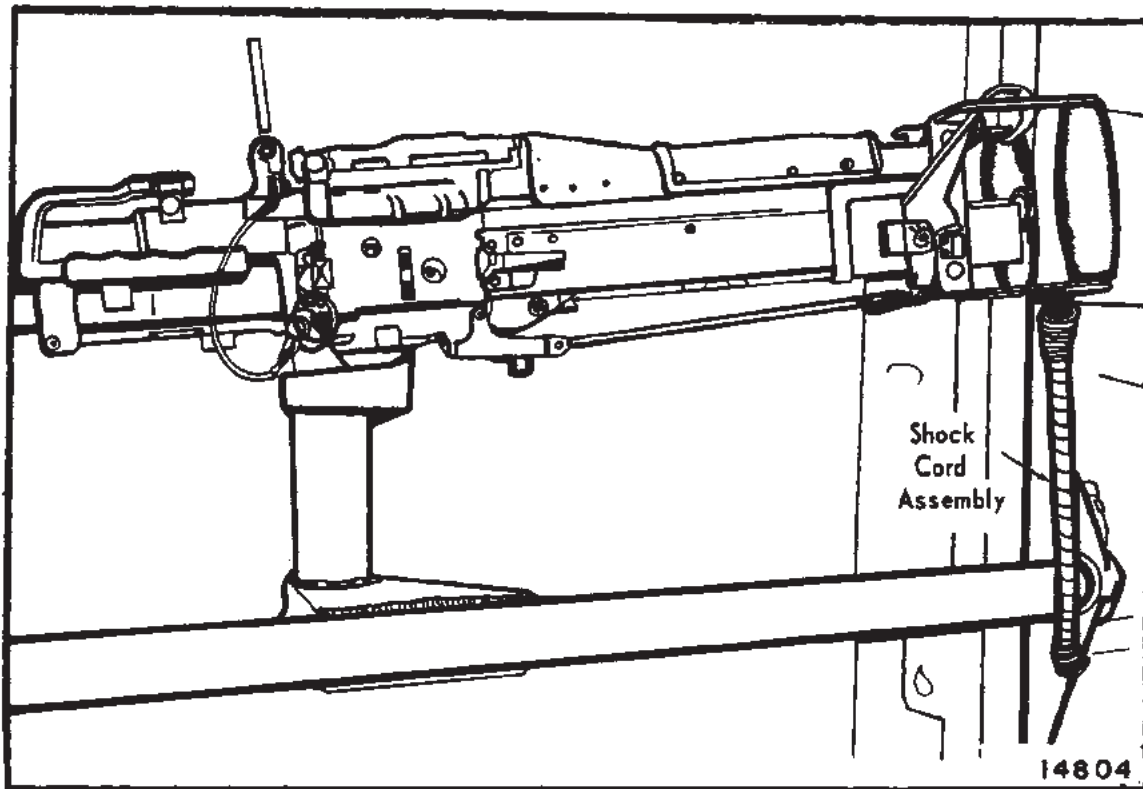

Figure 4-2-6. Machine Gun Stowed on Right Mount
- The shock cord (fig. 4-2-6) is fastened to the mount bracket and to the machine gun when stowed.